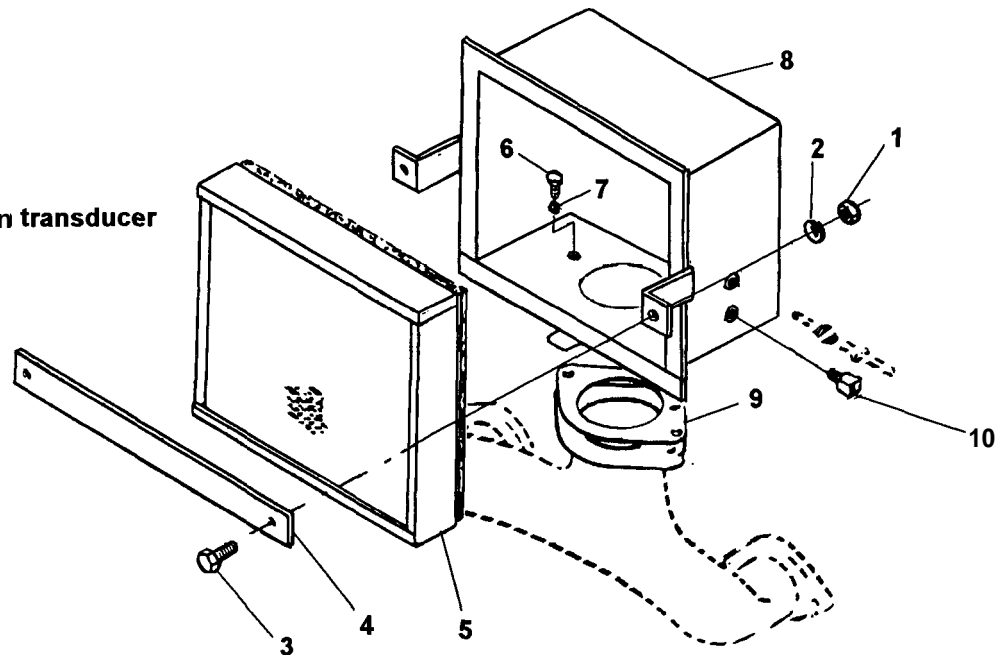

Figure 4-32. Air Cleaner Assembly, Exploded View
- (1) Disconnect electrical leads from air cleaner condition transducer.
- (2) Disconnect start aid tube assembly and remove spray nozzle (paragraph 4-34).
- (3) Disconnect breather tube assembly (paragraph 4-54).
- (4) Remove nuts (1, Figure 4-32), lockwashers (2) and screws (3) to remove retainer (4) and filter element (5).
- (5) Remove screws (6) and lockwashers (7) to remove housing (8) and gasket (9).
- (6) Remove condition transducer (10).
- (1) Install air cleaner condition transducer (10, Figure 4-32).
- (2) Install gasket (9), housing (8), lockwashers (7), and screws (6).
- (3) Install filter element (5), retainer (4), screws (3), lockwashers (2), and nuts (1).
- (4) Connect breather tube assembly, (paragraph 4-54).
- (5) Install spray nozzle and connect start aid tube assembly (paragraph 4-34).
- (6) Connect electrical leads to air cleaner condition transducer.